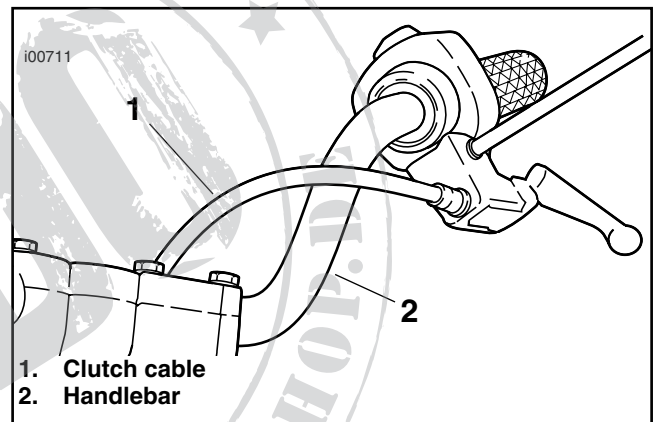

Figure 2. New Clutch Cable Routing
6. See Figure 2. Relocate clutch cable to the inside of the handlebars as shown in illustration as follows:
- d. Reroute clutch cable to the inside of the handlebars as shown in Figure 2 and reconnect clutch cable to clutch lever by reversing step c.